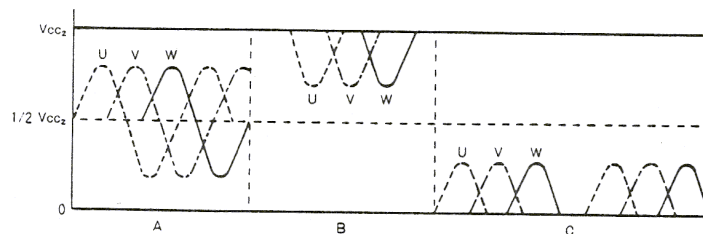

Fig. 5
V_{CC2} . The output waveform becomes (B) or (C) in Fig. 5 if pin 4 is pulled up to V_{CC2} or down to GND.